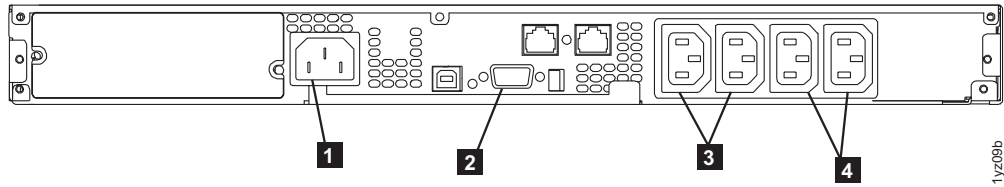

Figure 13. Installing the uninterruptible power supply 5115 power cable
6. At the back of the UPS 5115, plug the UPS 5115 main power connector **1** into the power socket. The UPS 5115 will be in standby mode so all indicators will be off. See Figure 13 on page 40.